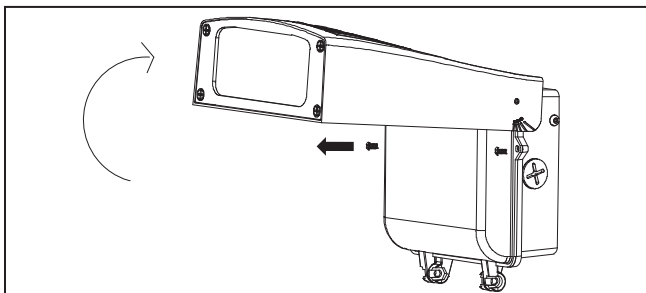

Figure 3.
3. Using a phillips head screwdriver, loosen but do not completely remove the side angle adjustment screw and adjust the luminaire head upward to 90°. (Figure 3)
4. Open the driver box by unscrewing the top part of the driver box. (Figure 3)